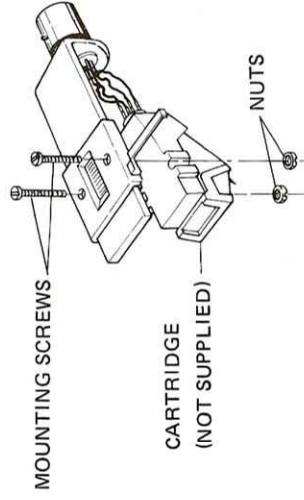

Fig. 4
3. Carefully mount the cartridge to the cartridge shell as shown with the mounting screws and nuts (Fig. 4). For overhang adjustment, do not tighten the mounting screws as yet.